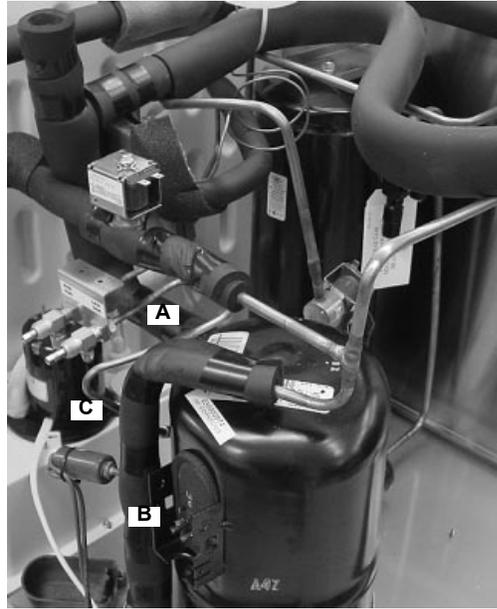

Figure 27.
Remove the insulation from the suction inlet by the crankcase pressure regulator valve (A) (Figure 27).